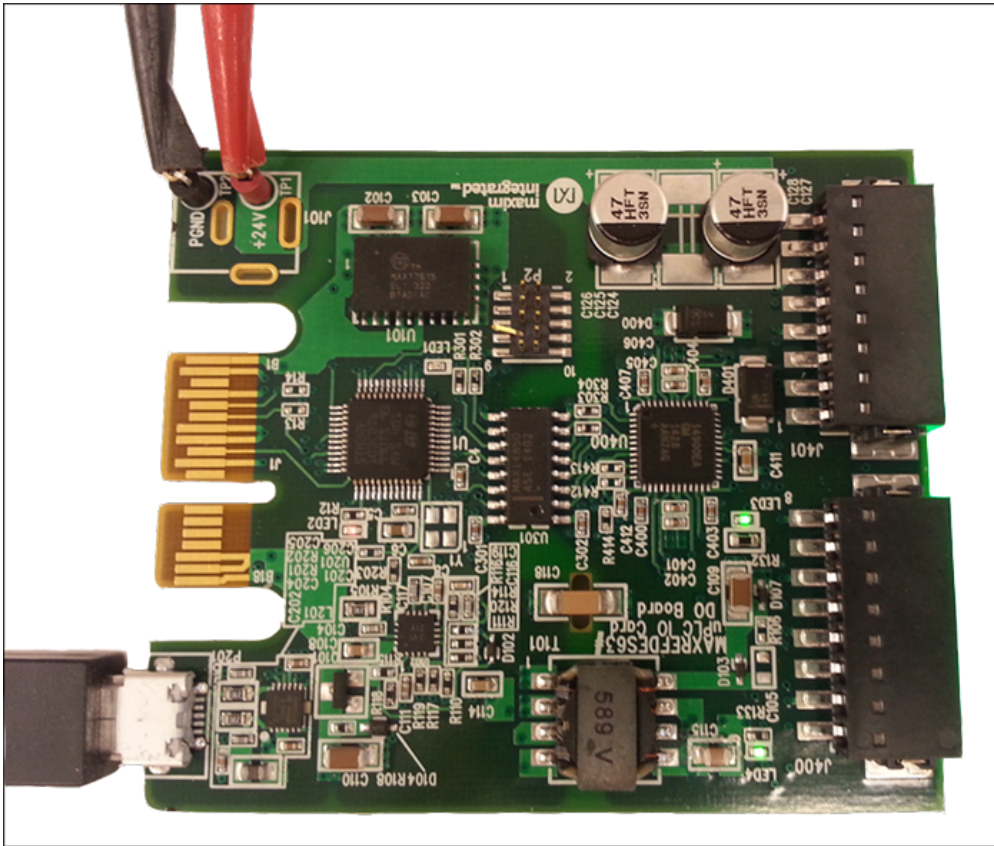
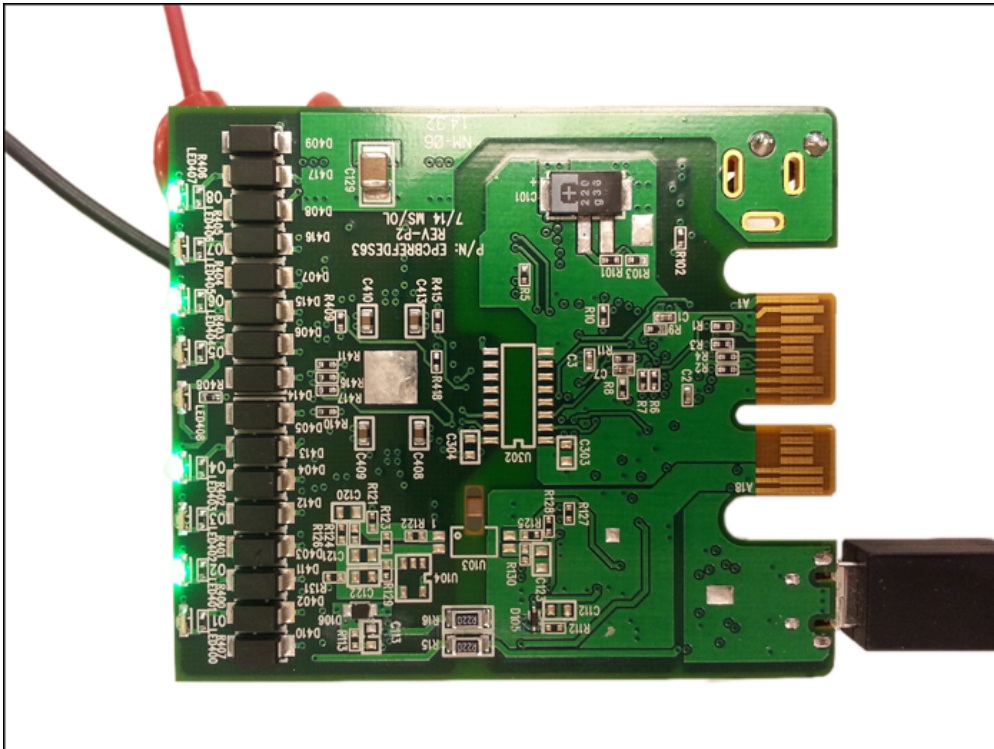

Figure 4. Test setup.
Figure 5. Test outputs.
**Figure 4** and **Figure 5** shows the status of the LEDs with the output configuration byte set to 0xFF and the output data byte set to 0xAA.